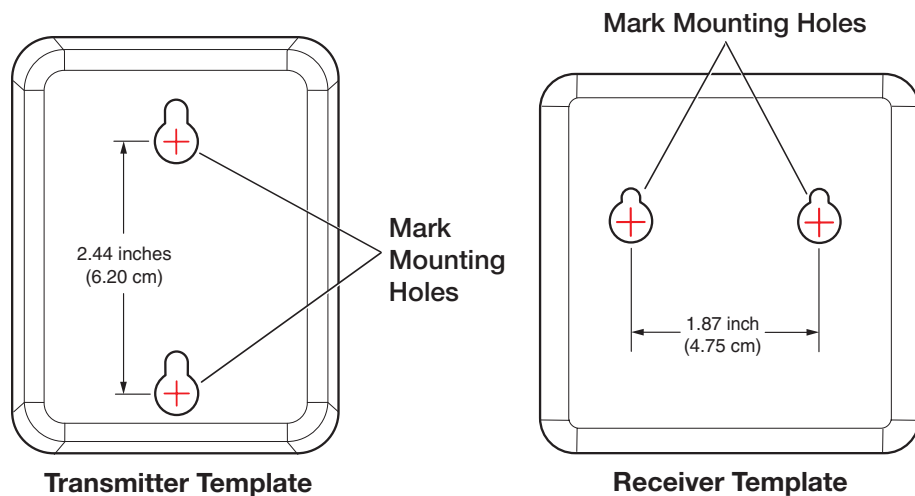

Figure 12. Mark the Center of the Two Mounting Hole Circles
3. Mark the location of the mounting hole centers on the wall or furniture (see figure 12).